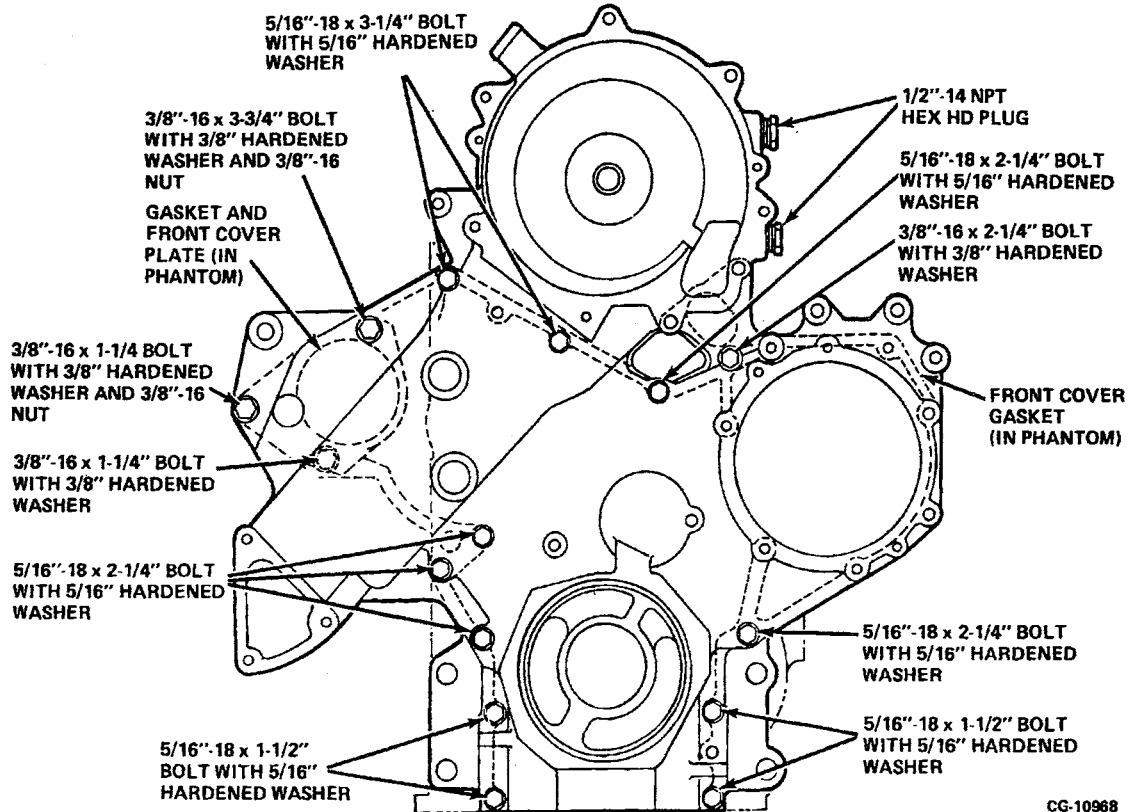

Figure 8.20. Front Cover Installation
- b. Install the front cover on the locating dowel pins and install the mounting hardware in the correct locations, as shown in Figure 8.20.